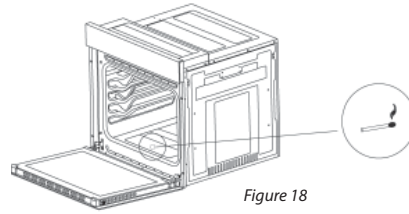

Figure 18
**! ATTENTION:** Automatic switch is available in the oven. Use this feature when the power fails. (Figure 18)